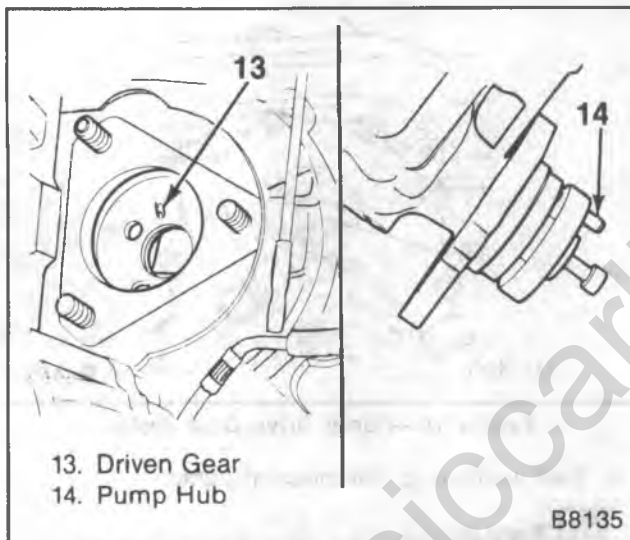

Figure 12—Injection Pump Locating Pin
1. New gasket (12).
- Align the locating pin on the pump hub (14) with the slot in the injection pump driven gear (13) (figure 12).
- Align the timing marks (figure 12).